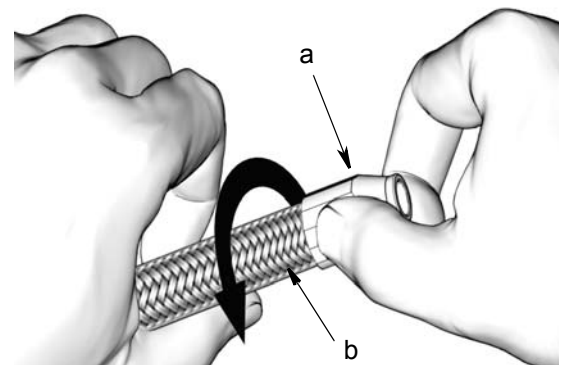

FIG. 58
4. Slide socket (a) over cut end of hose (b). Hand tighten socket to hose by turning socket counter-clockwise into hose (FIG. 58).